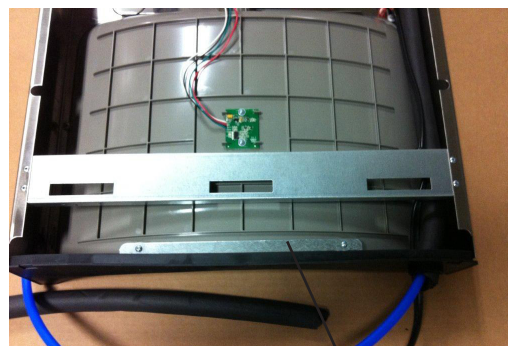

Fig 11
- 6) **Install gasket on bottom of bottle filler tower** with gasket support bracket & (2) screws (See Fig 11).